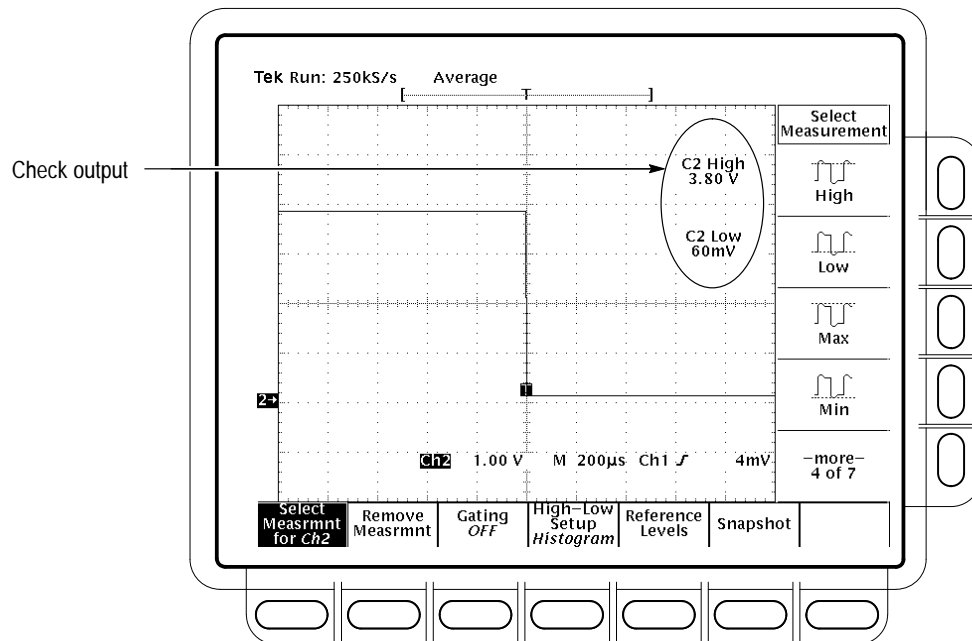

Figure 1-20: Measurement of Main Trigger Out Limits
d. *Check Delayed Trigger output against limits:* See Figure 1-20.